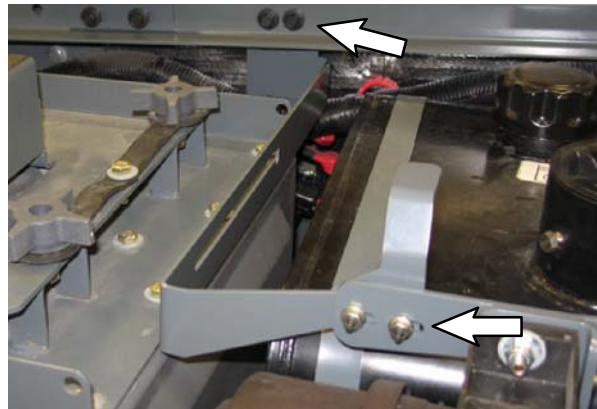

FIG. 47
- 61. Use two button head wire ties (102) to secure the main wire harness to the two remaining open holes in the operator station lip.
- 62. Use two SEMS hex screws (16), two hex nuts (17), two hex screws (11), and two hex nuts (13) to install the prop rod support bracket (44) and top cover latch bracket (12) onto the machine. Do not completely tighten hardware. Hardware is tightened during later adjustment. (Fig. 47)